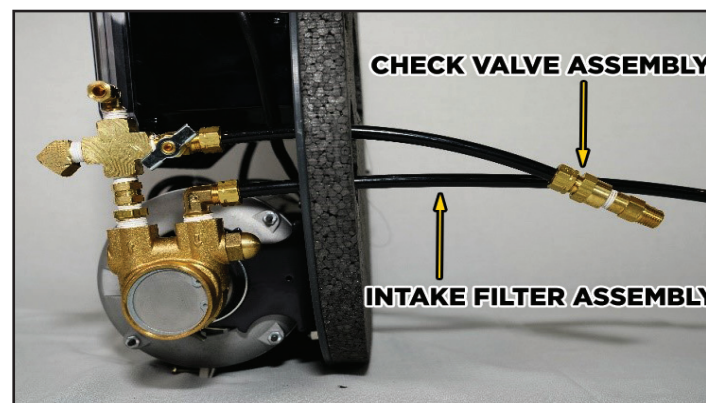

FIGURE 2
2. Run the end of the tubing from the intake filter through the lid and PVC circle and connect it to the pump suction inlet elbow. (Figure 2)
3. Insert the check valve assembly through the lid and PVC circle and connect it to the pressure regulating valve. (Figure 2)